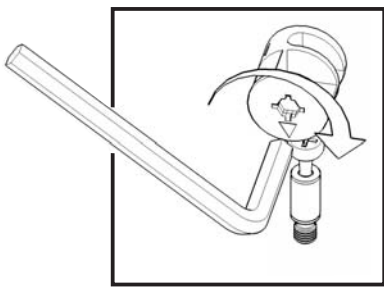

Figure 3
Attach Back Rail (T), (U) and (V) to Side Panel (P) using Cam Locks (see Figure 3), then slide Back Panels (D) into place.